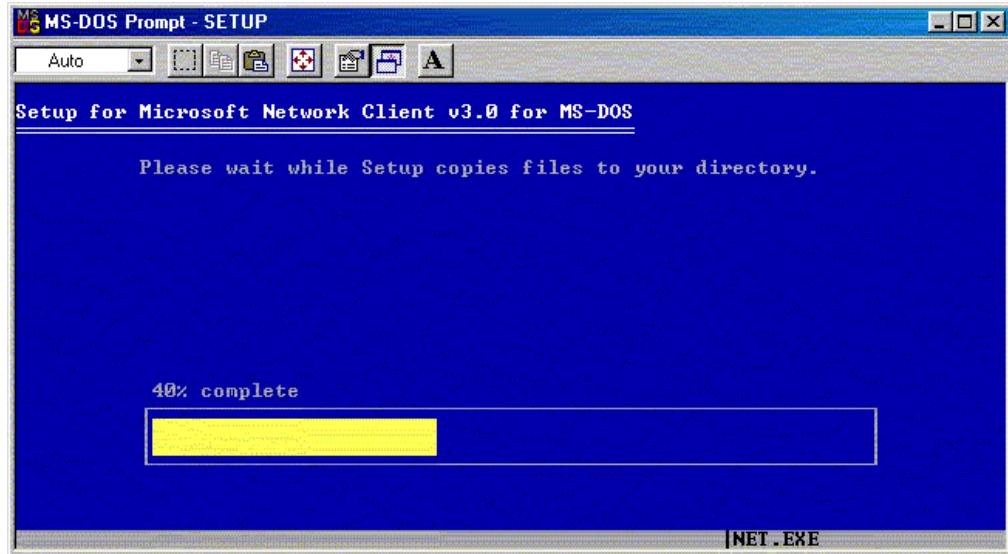

Figure A-15: File copy progress bar
- Reinsert the first diskette and press the **Enter** key. A progress bar similar to Figure A-15 is displayed.